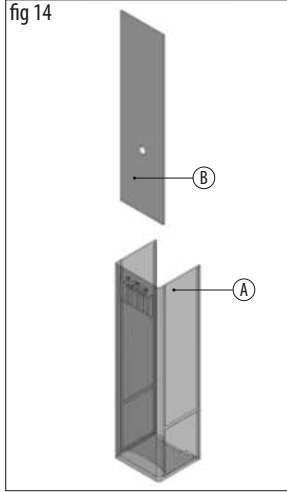
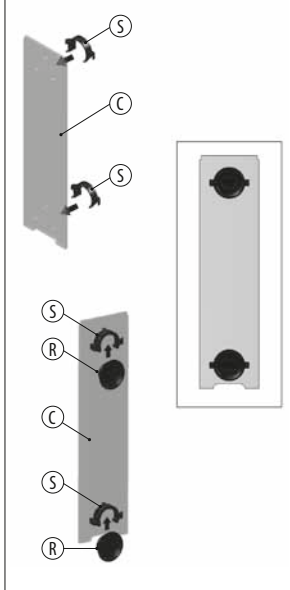

fig 15
fig 17
- Place the motor assembly in the horizontal slot on the skimmer body (A) make sure that the connector (Q) correspond to the opening on the separation (B) – fig.15
- Apply the magnet (R)+ suction cups to the clips (S) on the back panel of the skimmer (C)
- Insert the back panel (C) in the slot on the back part of the skimmer (A) to a complete stop – fig.17